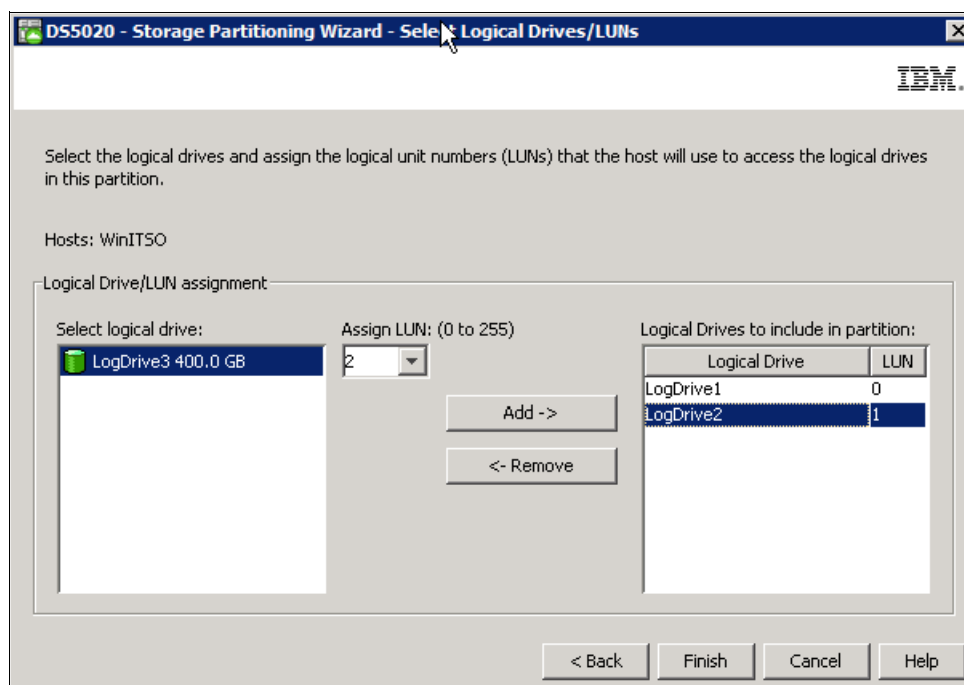

Figure 4-77 Storage Partitioning wizard: Selecting logical drives/LUNs
3. The next window allows you to select the logical drives that are going to be mapped to the host or the group. You also have to specify a LUN for each logical drive. In our example, shown in Figure 4-77, we selected WindowsLD1 and WindowsLD2. We assigned the LUNs 0 and 1, respectively, to these two logical drives.
5. Display your newly defined host groups, host, and mappings by selecting the **Mappings** view in the Subsystem management windows, as shown in Figure 4-77.